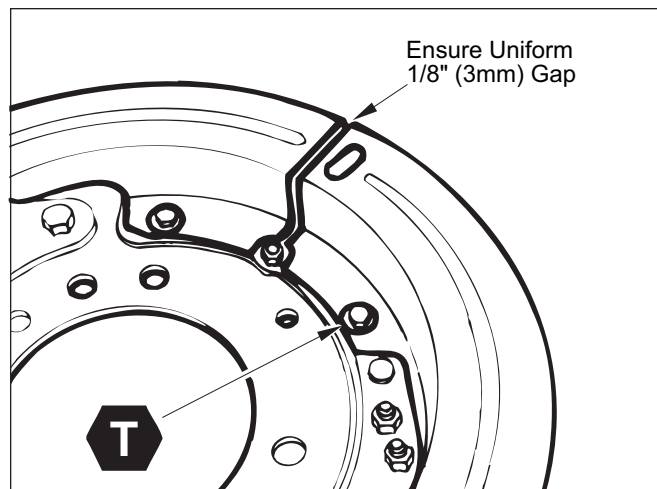

Figure 48. Dustshield Spacing
3. Reposition dustshield as required to allow a uniform space of 1/8" (3.2 mm) all along parallel mating edges. Refer to Figure 48.